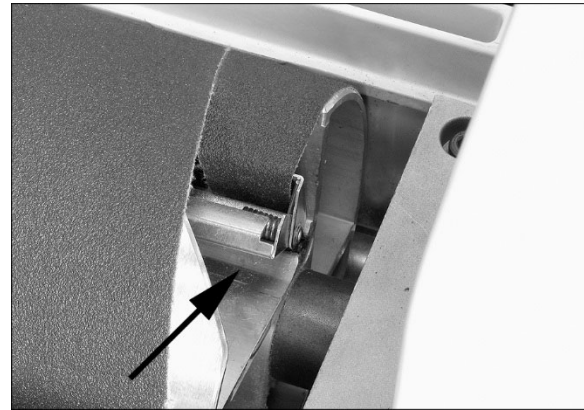

Figure 6-10
5. Press inboard take-up lever (Figure 6-10) and insert trailing end of strip as far as it will go. If necessary, trim tapered end of abrasive strip.